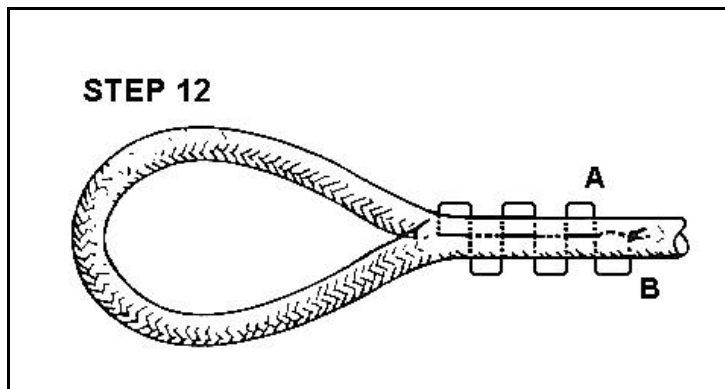

Figure 12-63. Completing Lockstitching
- **STEP 12 -- Complete lockstitching.** Rotate spliced part of line 90 degrees and reinsert end A into splice area in the same fashion as before. Make sure you do not pull stitching too tight. Complete last stitch so that end A comes out through the same opening in the braid as end B. Tie them together with a square knot and reinsert back ends into braid between cover and core as shown in Figure 12-63.